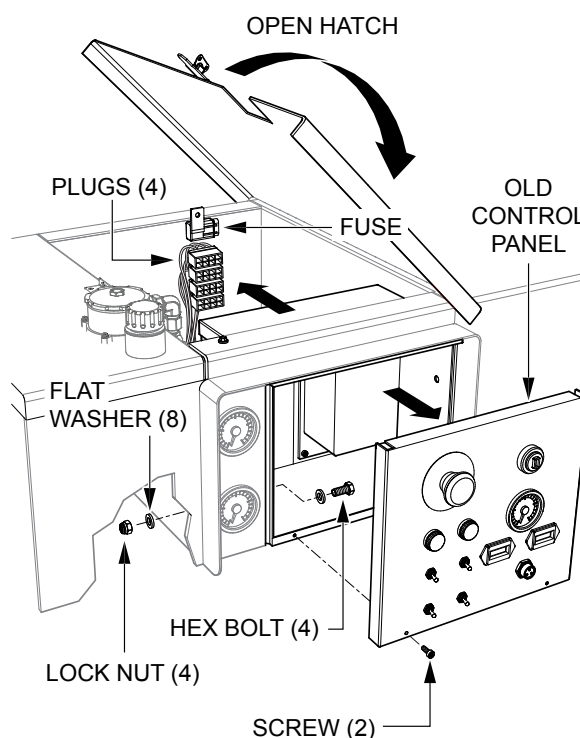

Figure 2. Removing Existing Control Box
3. Disconnect the 4 plugs from the receptacles on the rear of the control box currently installed on the pump (see Figure 2). Mark and tag the plugs for reference when new control box is installed. Remove the fuse from the rear of the control box and keep the nut and washers. They will be used to reinstall the fuse on the new control box.
4. Remove the existing control box as shown in Figure 2. Keep the hex bolts, flat washers and lock nuts. They will be used in the installation of the new control box.